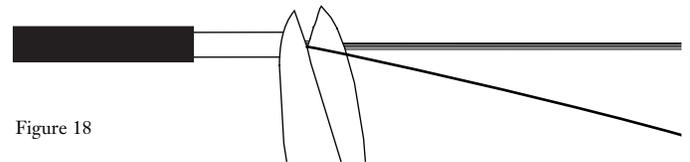

Figure 18
6.10 Using scissors, cut the fiber(s) to be accessed as close as possible to the appropriate end of the buffer tube (Figure 18). USE EXTREME CARE TO CUT ONLY THE FIBER(S) TO BE ACCESSED.